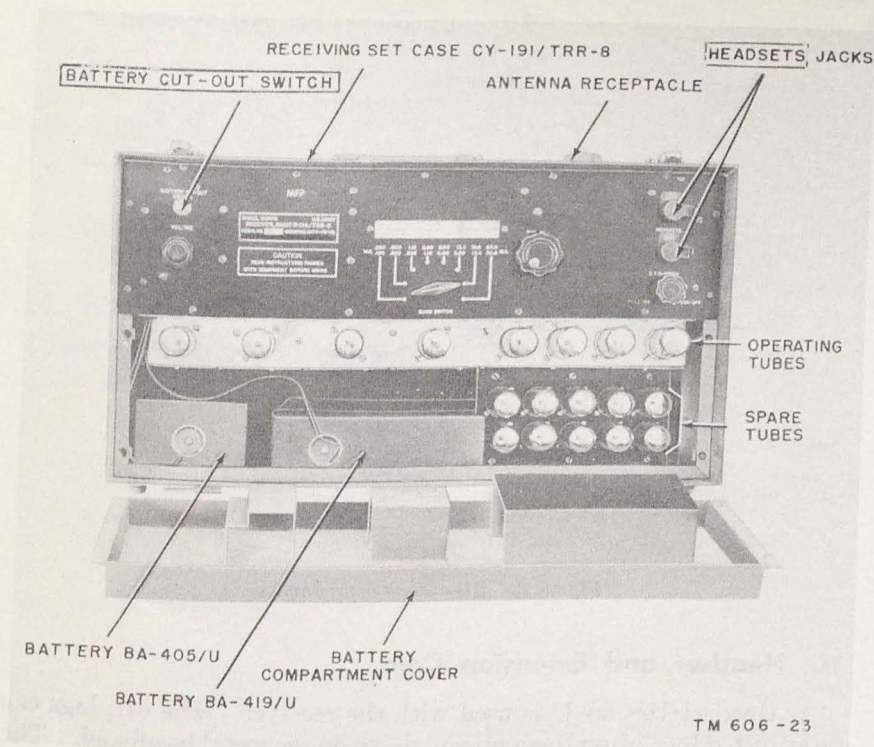

Figure 2. Radio Receiver R-104/TRR-8, front view with battery compartment cover open.
b. The radio set contains a battery-powered superheterodyne receiver, Radio Receiver R-104/TRR-8 (fig. 2), which is used to receive amplitude modulated (am) and continuous wave (cw) signals on eight bands covering the frequency range of .100 megacycles (mc) to 65 mc. The equipment may be transported from one operating site to another in Receiving Set Case CY-191/TRR-8. This case is used also as an operating mount for the receiver when it is in operation.
(figs. 2 and 3)
a. Radio Receiver R-104/TRR-8 (fig. 2) is an eight-tube superheterodyne receiver for reception of am and cw signals on eight bands in the frequency range of .100 mc to 65 mc. It is housed in Receiving Set Case CY-191/TRR-8, which also serves as a portable operational mount.
c. The cover of the compartment below the receiver may be removed by loosening the fasteners on the sides of the cover about ¼ turn with a screw driver. One section of this compartment houses Battery BA-405/U and Battery BA-419/U (fig. 2). The other section contains 10 spare tubes mounted in sockets.
e. Insert Plug PL-55, on the free end of Cord CD-874, into either of the two front-panel jacks labeled HEADSETS (fig. 2).
(1) Remove Antenna AN-45-H from inside the carrying case cover.
(2) Unscrew the antenna receptacle cap located on top of the carrying case to the right of the handle.
(3) Insert the antenna into the antenna receptacle as far as it will go and screw it in place. Extend the antenna to its full length.
(1) Remove the auxiliary antenna from inside the carrying case cover.
(2) Connect the clip on one end of the auxiliary antenna to the base of Antenna AN-45-H.
(3) Unreel approximately 75 feet of the auxiliary antenna wire and tie the reel end to a post or tree. The antenna should be installed in a horizontal position.
h. Remove the cover marked BATTERY COMPARTMENT and SPARE TUBE COMPARTMENT (par. 15*d*). Install Battery BA-405/U and Battery BA-419/U in their proper positions in the battery compartment (fig. 2). Insert plugs P1 and P2 (connected to the two rubber-jacketed cables from the receiver) into the receptacles on the batteries. P1 is plugged into Battery BA-405/U; P2 is plugged into Battery BA-419/U. The plugs are keyed to the battery receptacles so that it is not possible to connect the cables incorrectly. The batteries are not supplied with the radio set and must be requisitioned through normal supply channels.